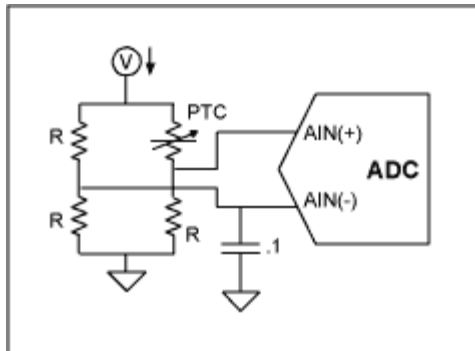

Figure 7. Wheatstone bridge application.
**Figure 7** shows a thermistor connected in a Wheatstone-bridge application. In this example, AIN(+) and AIN(-) are both non-zero. The output code of the ADC will be a function of the differential voltage,  $AIN(+)$  -  $AIN(-)$ . The pseudo-differential inputs cancel out the DC common-mode voltage. To ensure AIN(-) is stable to within  $\pm 0.1\text{LSB}$ , bypass AIN(-) to analog ground with a  $0.1\mu\text{F}$  capacitor.